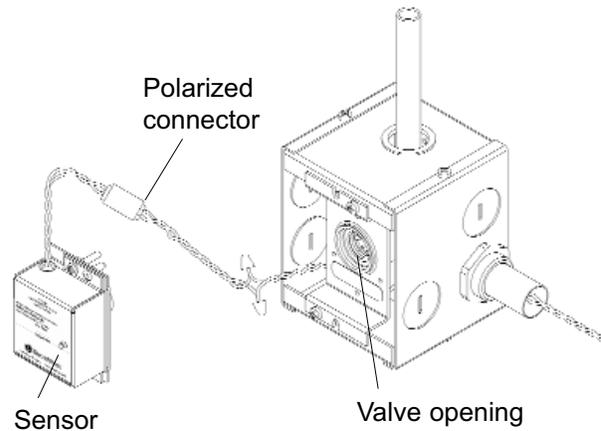

Figure 34: Remote Sensor Module Connection
3. Join polarized connector in sensor mounting box to mating connector on sensor module (Figure 34).